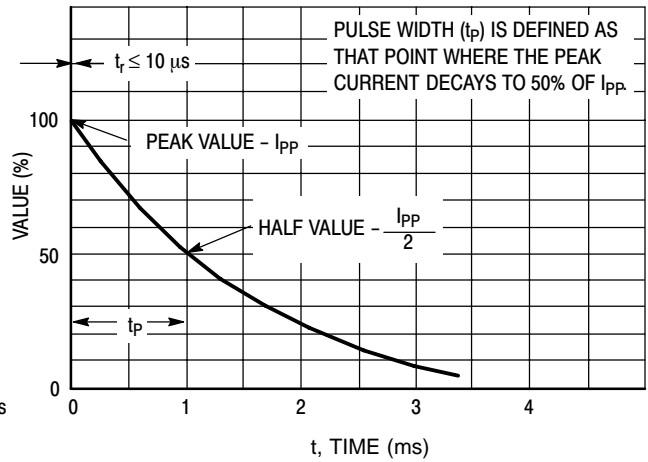
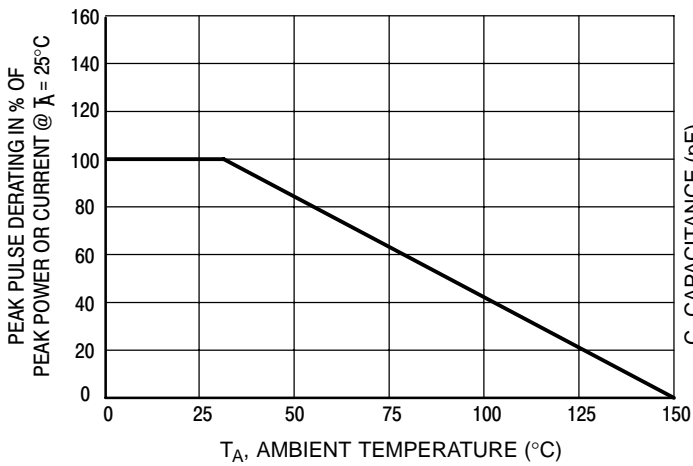

Figure 2. Pulse Waveform
Figure 4. Pulse Derating Curve
8. Surge current waveform per Figure 2 and derate per Figure 4 of the General Data – 600 W at the beginning of this group.